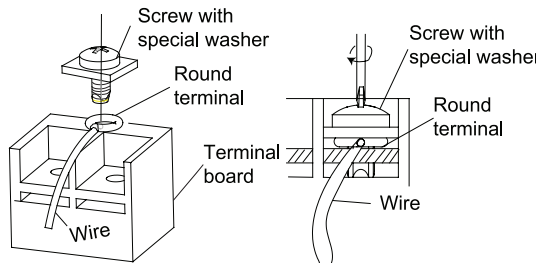

Fig.40
- iv). Position the round terminal wire, and replace and tighten the terminal screw with a screwdriver.(Fig.40)